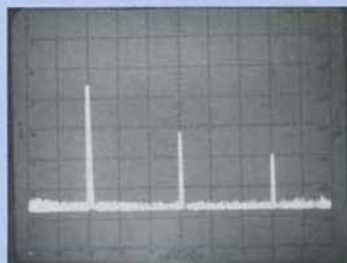

Figure 32.
18. Disconnect the 8616A signal generator from the spectrum analyzer. Set spectrum analyzer controls as in Step 2. Change scan mode to PER DIVISION and SCAN WIDTH to 10 MHz/DIV. Connect ET-2399A demo source to the spectrum analyzer. Turn ON the ET-2399A. Tune FREQUENCY to 60 MHz (second harmonic of source frequency). Use FREQUENCY to align the observed signals with the vertical lines in the CRT. Note that the signals in Figure 32 are spaced exactly 3 divisions (30 MHz) apart.